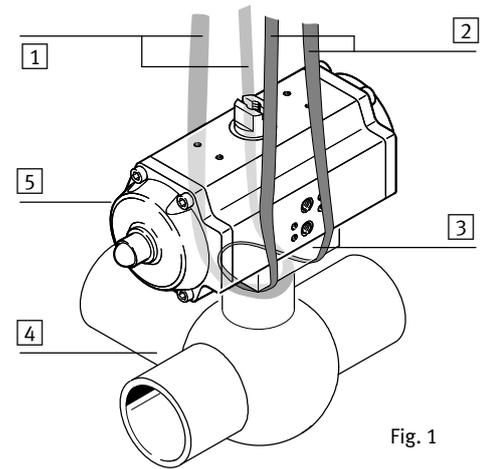

Fig. 1
2. Guide two carrying straps 1, 2 under either side of the flange mounting 3 of the process valve 4 to form a sling (→ Fig. 1).